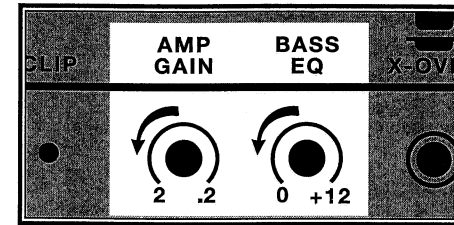

Figure 8 - Bass & Gain Controls
1. Start both adjustments at "0" or at minimum sensitivity, a counter-clockwise setting for Bass EQ and Gain (See Figure 8).